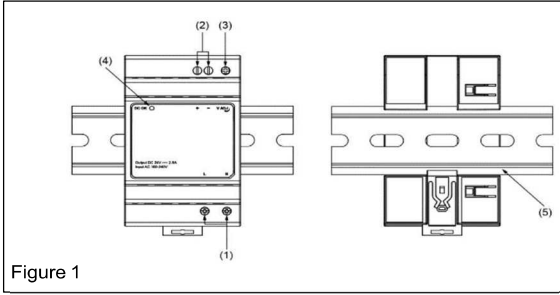

Figure 1
2. Device description (Fig. 1)
5.1. Input connection (Fig. 1 (1), Fig. 5)
Use L and N connections of input terminal connector (see Fig. 1 (1)) to establish the 100-240 VAC connection. The unit is protected with internal fuse (not replaceable) at L pin and it has been tested and approved on 20A (UL) and 16A (IEC) branch circuits without additional protection device.
5.2. Output connection (Fig. 1 (2))
The green LED DC OK displays correct function of the output (Fig. 1 (3)). The device has a short circuit and overload protection and an over voltage protection limited to < 18 VDC.